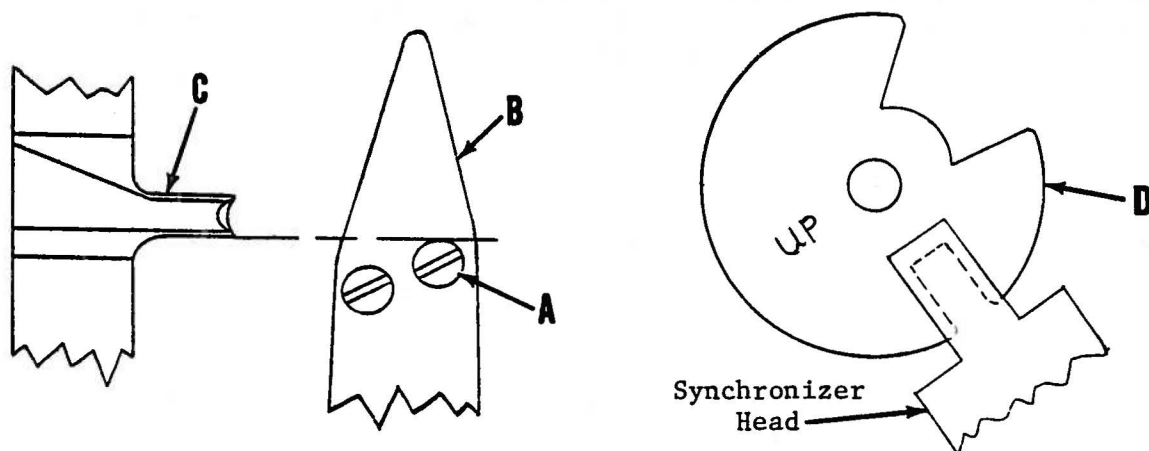

Fig. 36
With power off, turn the handwheel in operating direction until thread take-up is 1/8 inch (3.18 mm) before top dead center, OR leading edge of the first screw (A, Fig. 36) in the hook deflector (B) aligns with front edge of positioning finger (C) with needle in the up position. Rotate the needle-up disc (D) until its smaller opening is centered in the synchronizer head.